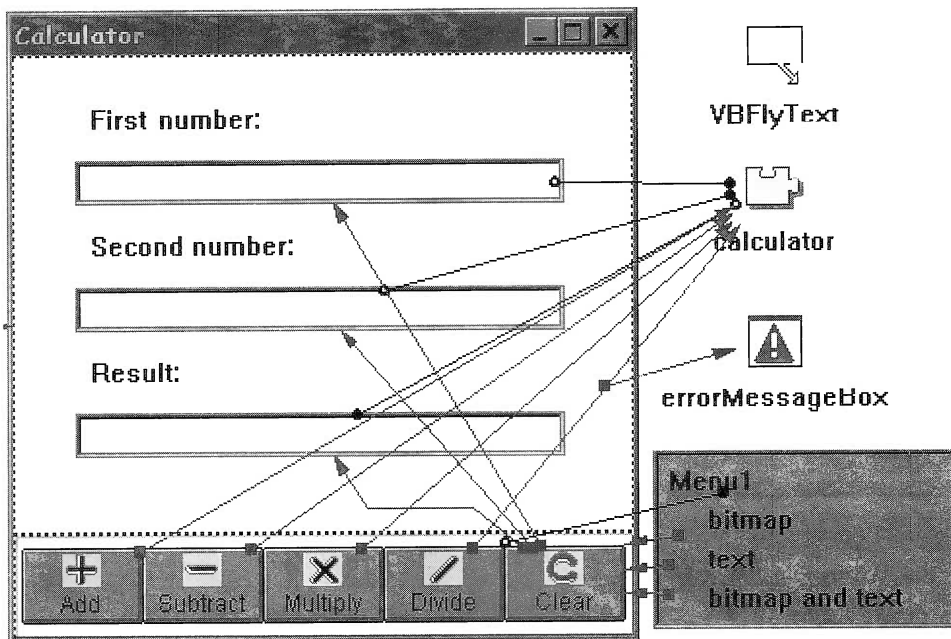

Figure 98: Connecting **exceptionOccurred** to the message box
- ❑ Connect the **exceptionOccurred** event of the divide connection to the **errorMessageBox(showException)** action. In order to be able to connect to a connection, you select the connection by clicking on it, then bring up its pop-up menu by clicking the selected connection with the right mouse button. This connection should look like Figure 98.